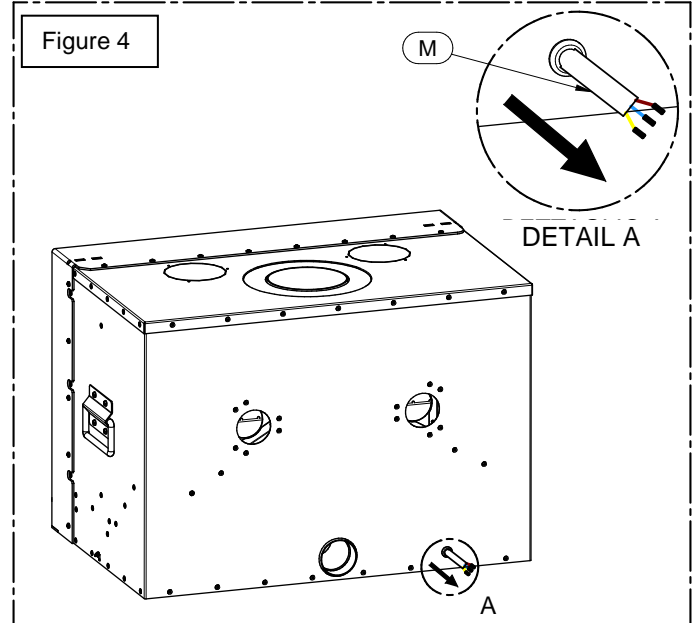

Figure 4
- 4) Tighten bolt (L) until the smoke channel is firmly and tightly secured to the insert's exhaust pipe, see Figures 4 and 5. Then reassemble the previously removed cast irons.
- 3) Run the switch wire (L) through the conduit until it comes out at the front. Connect the wires in the order shown to the switch connectors, and then push it into its housing, see Figure (3).
- 4) Withdraw the power cable (M) of the fan from the appliance by running it through the rear hole (A) and connect it to the 230V - 50Hz power supply, see Figure 4.